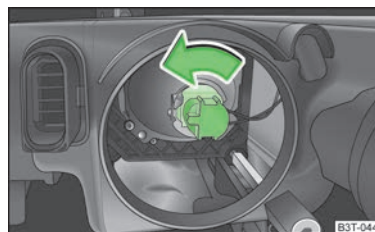

Fig. 187 Removing the bulb for the low beam
- › Turn the connector with the bulb in an **anti-clockwise direction** up to the stop and remove » Fig. 187.